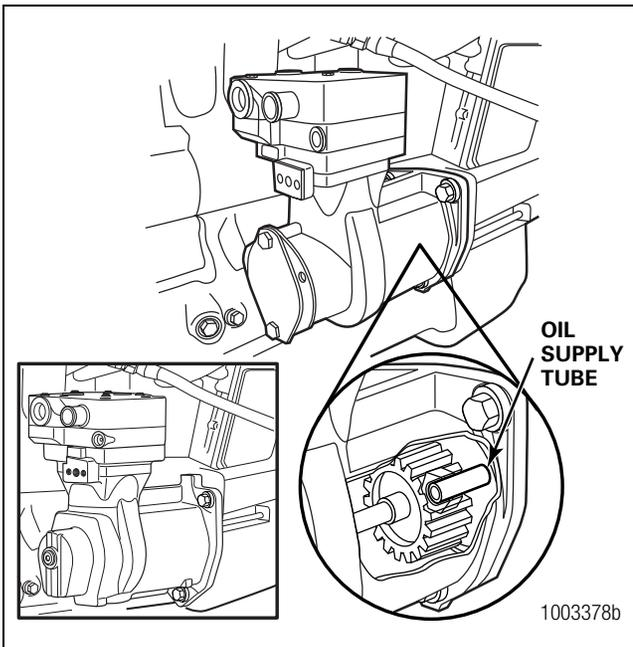

Figure 3.3
**Remove and retain the oil supply tube that runs between the compressor and the engine.** Figure 3.3.